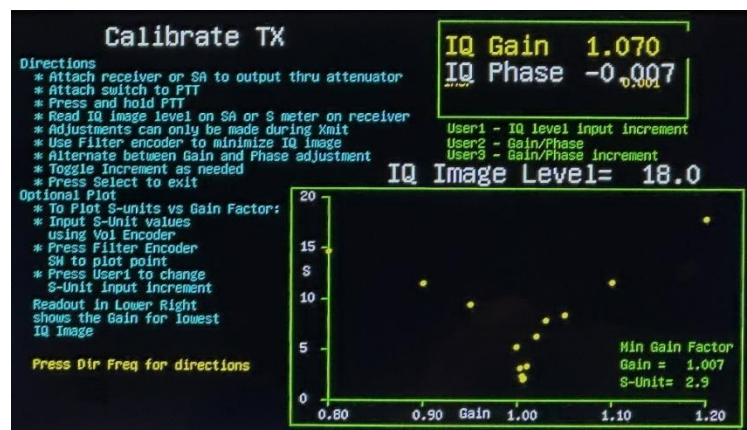

Figure 15 T41 Xmit IQ Gain plot
- A clear minimum should appear on the plot after a few points as shown in Figure 15.
- Finally Press Dir Freq Button to display the on-screen Directions which are also shown in Figure 15.